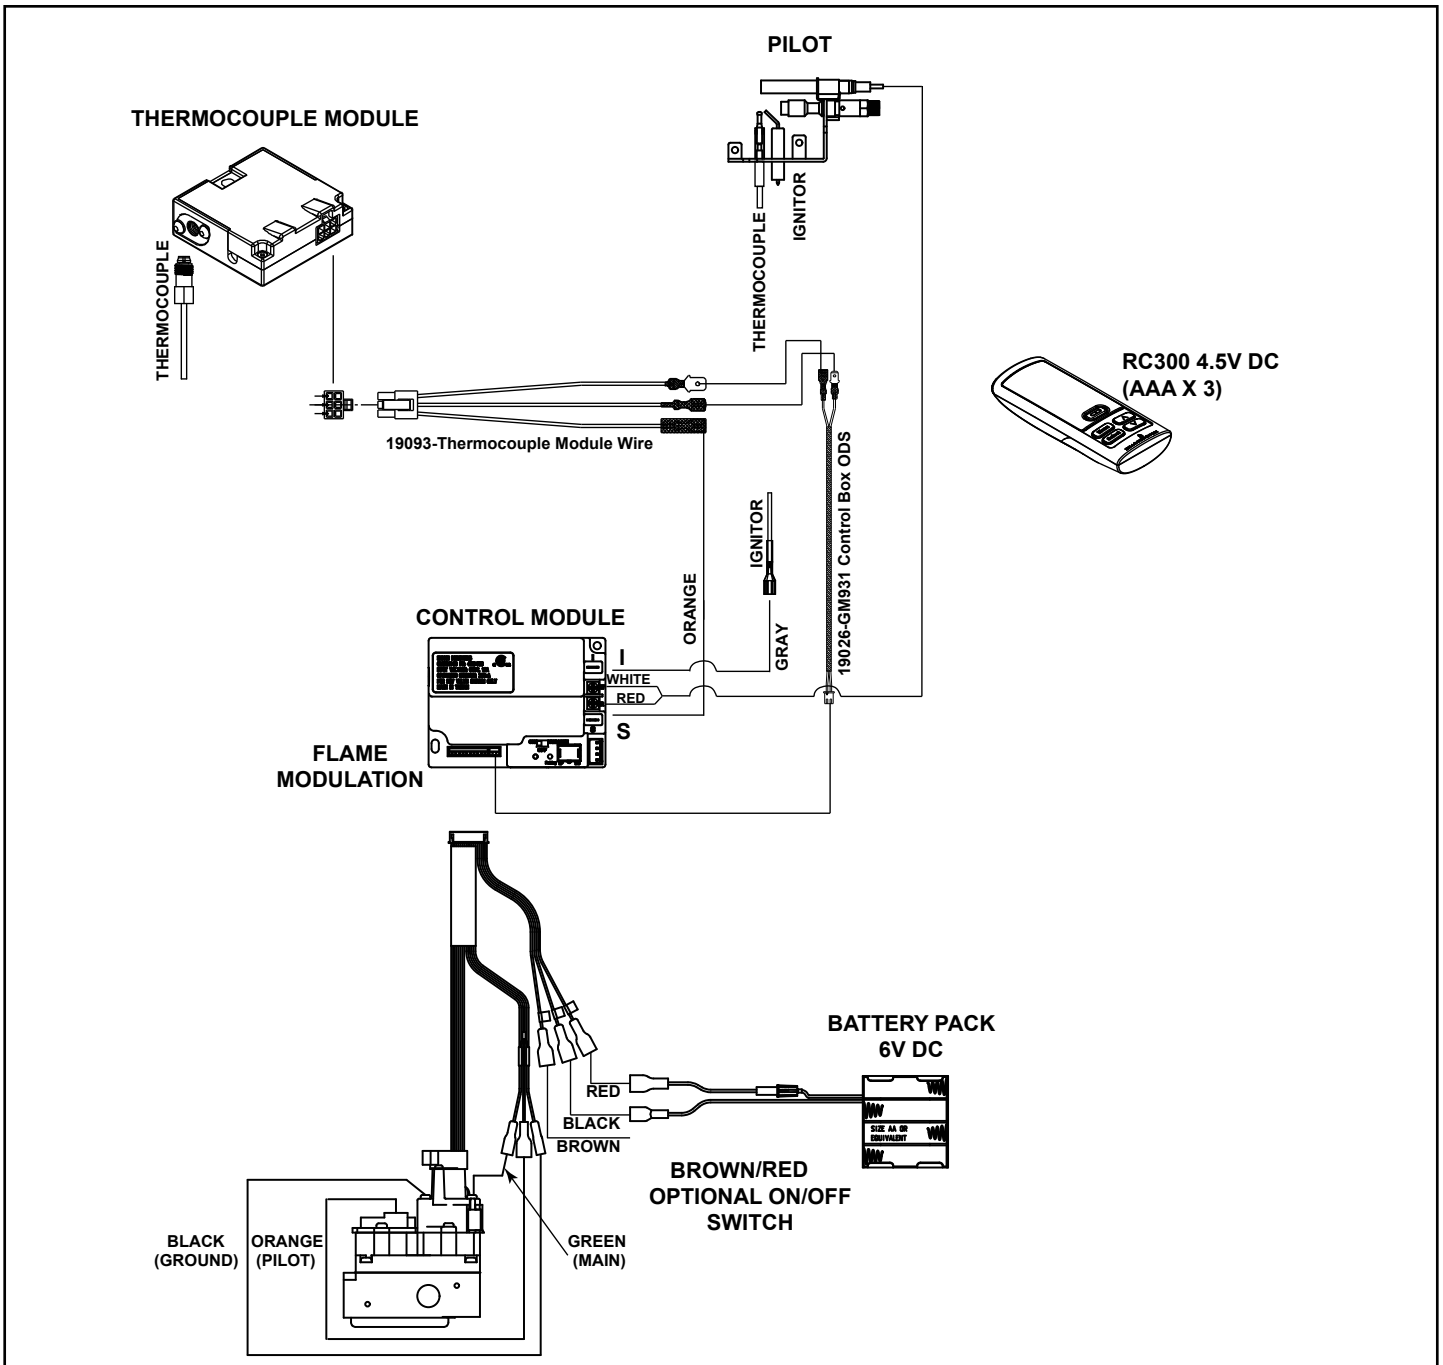

Figure 5.4 IntelliFire™ Plus ODS Wiring Diagram (Battery Only)
- Refer to Figure 5.4, IFP ODS Wiring Diagram.